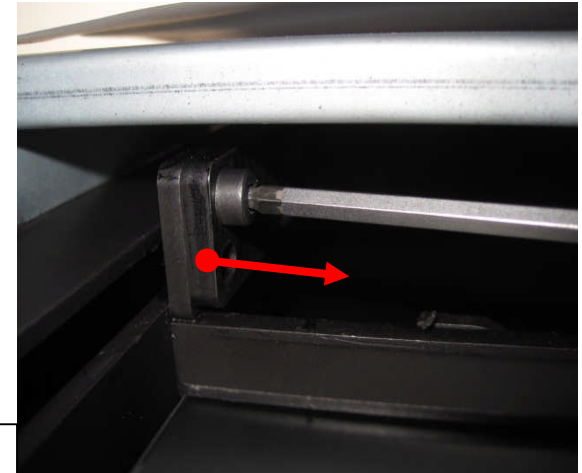

Abb. 6
1. Close the vertical sliding door so that the fixing screws can be reached (**see Fig. 6**)